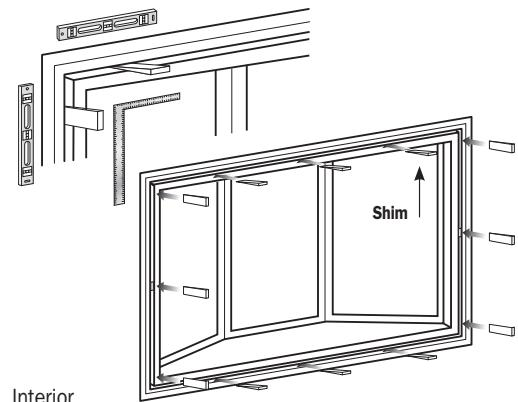

Figure 2
- Shim as needed to make frame square with opening in wall (Figure 2).